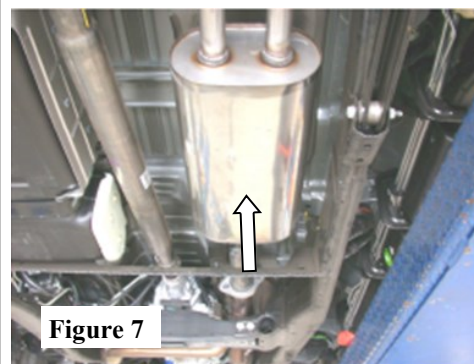

Figure 7
2. Place a **Clamp** over the inlet of the **Muffler Assembly** and attach to **Front Pipe Assembly**. Support the muffler with a muffler stand or help from an assistant. (See Fig. 7) **Do not tighten the clamp.**
3. Place a **Clamp** over each expanded end of the **Tail Pipe Assembly** outlets and attach to the **Muffler Assembly** outlets making sure to install the hangers into the rubber isolator. **Do not tighten the clamps.** (See Figs 7 & 8)